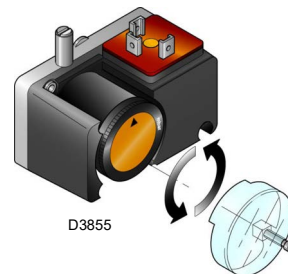

Fig. 27
- Adjust the minimum gas pressure switch (Fig. 27 on page 26) to the start of the scale.
Adjust the minimum gas pressure switch (Fig. 27) after having adjusted the burner, the gas valves and the gas train stabiliser. With the burner operating at maximum output: